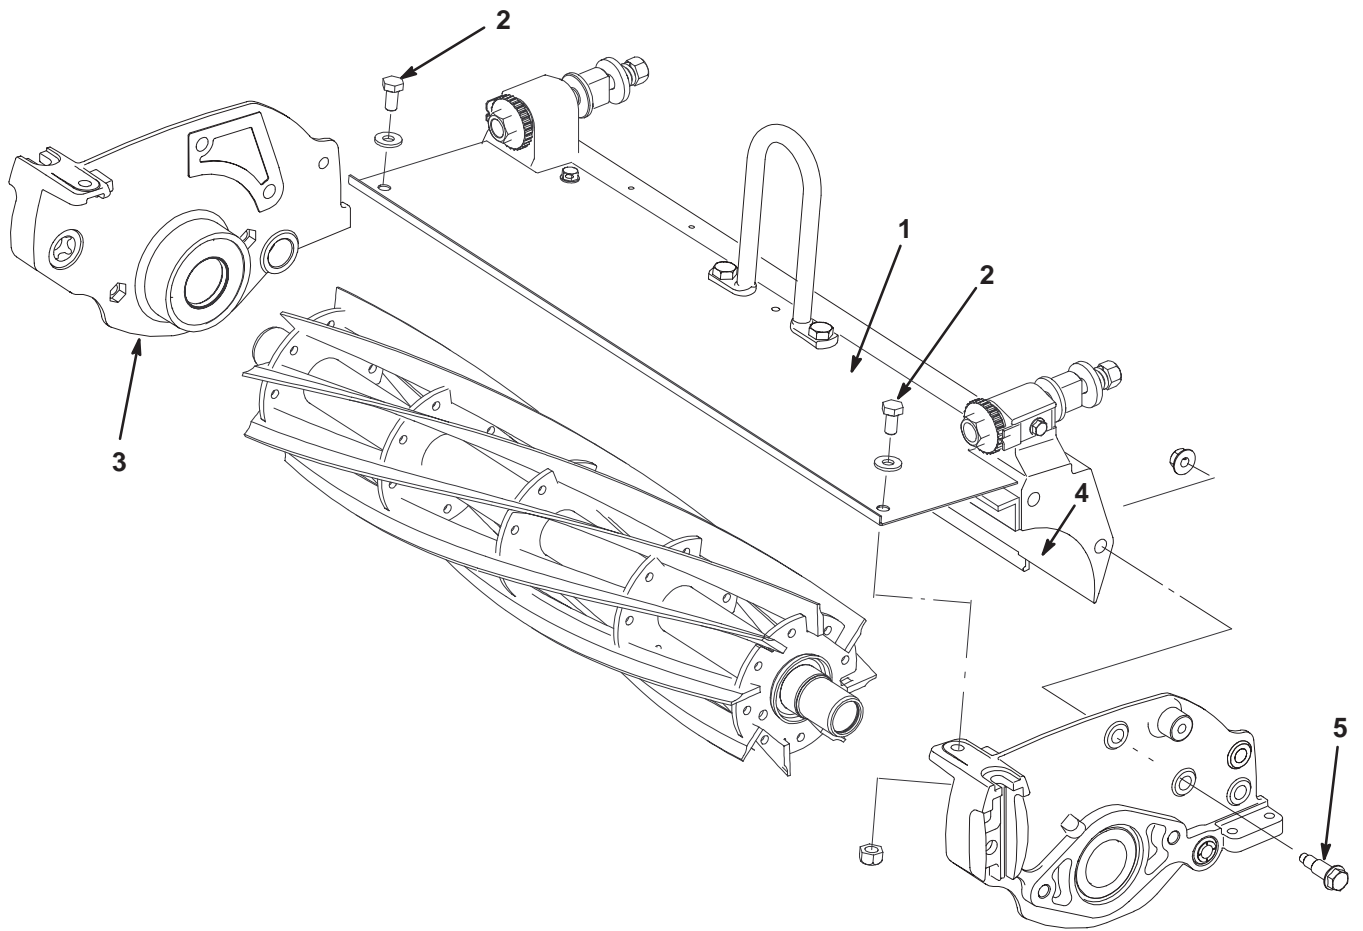

Figure 4
- Remove the capscrew, washer and lock nut securing each end of the grass shield to the side plates (Fig. 4). These are the only capscrews that must be removed. The grass shield and the lift hook do not need to be removed.
- Remove the 2 shoulder bolts securing the right hand side plate to the cutting unit frame (Fig. 4). Remove the side plate from the reel shaft and roller shafts.
- Remove the 2 shoulder bolts securing the left hand side plate to the cutting unit frame (Fig. 4). Remove the side plate from the reel shaft and the roller shafts.